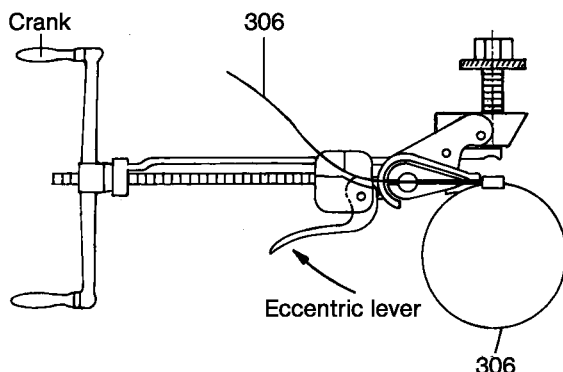

Figure 13. Clamping the joint clamp by means of clamping tool Band-It and adapter J050.
- Introduce band end of the joint clamp (306) to the joint clamp lock into the clamping tool with adapter.
- Hold clamp end with the eccentric lever of the clamping tool, and clamp joint clamp (306) by turning the crank (Figure 13).